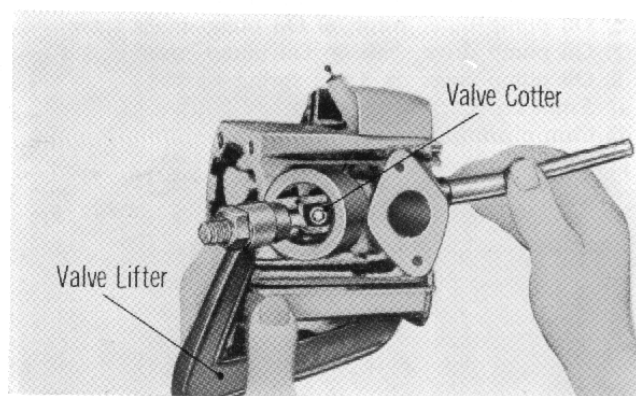

Fig. 16
10. Disassemble the valve by using the valve removal tool (Tool No. 07031-25001) (**Fig. 16**).